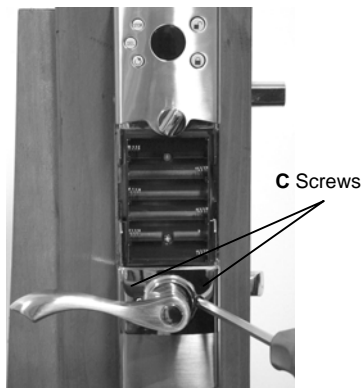

Fig 13
6. Fasten the two long **C Screws** on the lower portion of the unit. (Fig. 13)